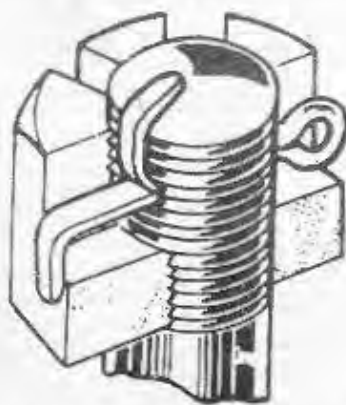
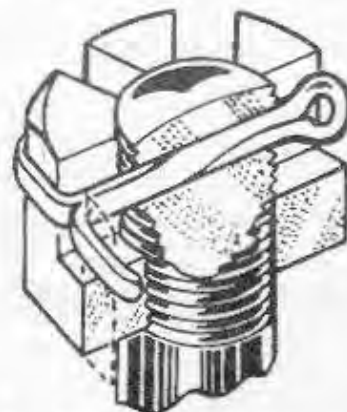

Fig. 1. Fitting split pins in stationary components
Fig. 2. Fitting split pins in moving components
6. * Split pins must be fitted very carefully. The normal recommended practice for stationary components is for the head of the split pin to be fitted into the slot in the nut and for the legs of the pin to be bent up over the end of the bolt and down over the nut as shown in fig. 1. For moving components, the split pin must be twisted carefully through 90 deg., before fitting, so that with the head fitting correctly in the slot in the nut, the legs of the pin can be wrapped round the hexagon of the nut as shown in fig. 2. The head of the split pin must never protrude beyond the slot of the nut. Split pins should be inserted and the legs bent over with pliers and never by hitting with a hammer, otherwise the legs may be fractured at the point of bending, or at the base of the head, on the sharp edges of the nut.